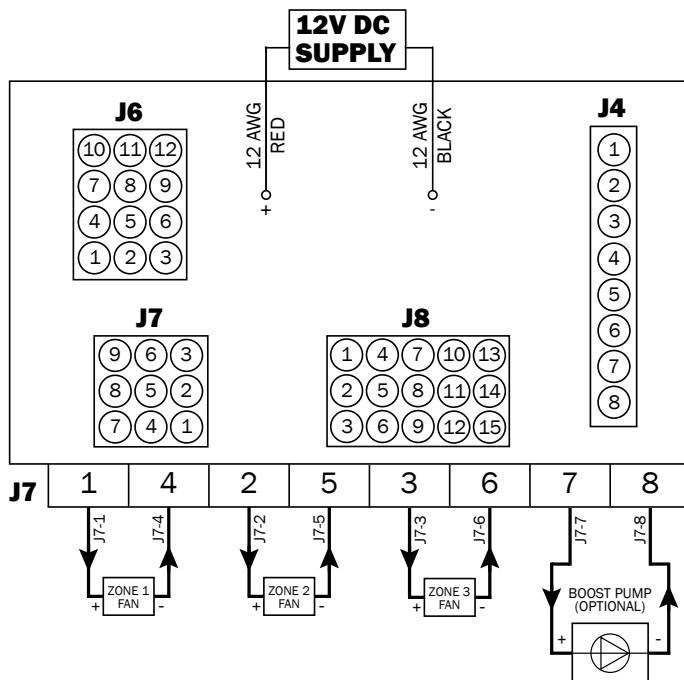

Figure 50
1. Refer to Figure 50 for harness installation.
2. Connect the opposite end of the RVC cable to the terminating resistor (Figure 50).